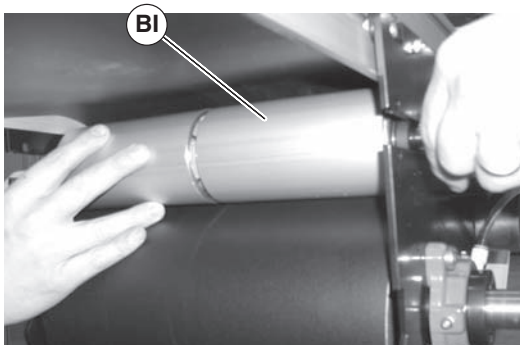

Figure 30
10. Slide out tensioning roller (Figure 30, item BI).